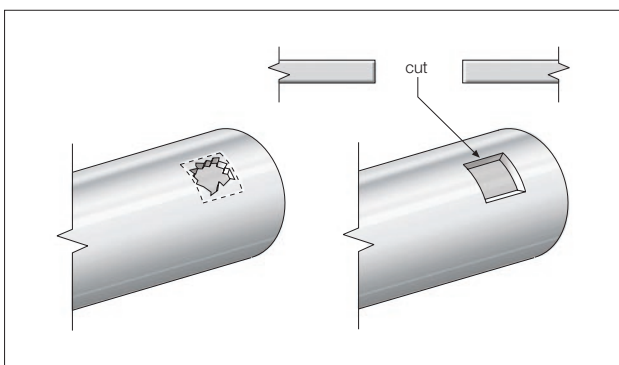

Figure 59 - Repair section step 1
1. Cut away damaged material back to firm substrate as shown in Figure 59.